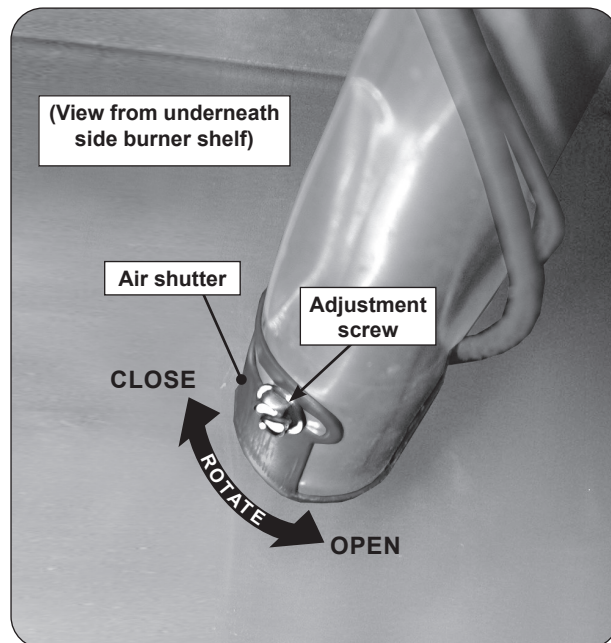

Fig. 54-1 Side burner air shutter adjustment detail
2. Loosen the adjustment screw with a flathead screwdriver, then carefully rotate the shutter to open or close it. See Fig. 54-1 for details.